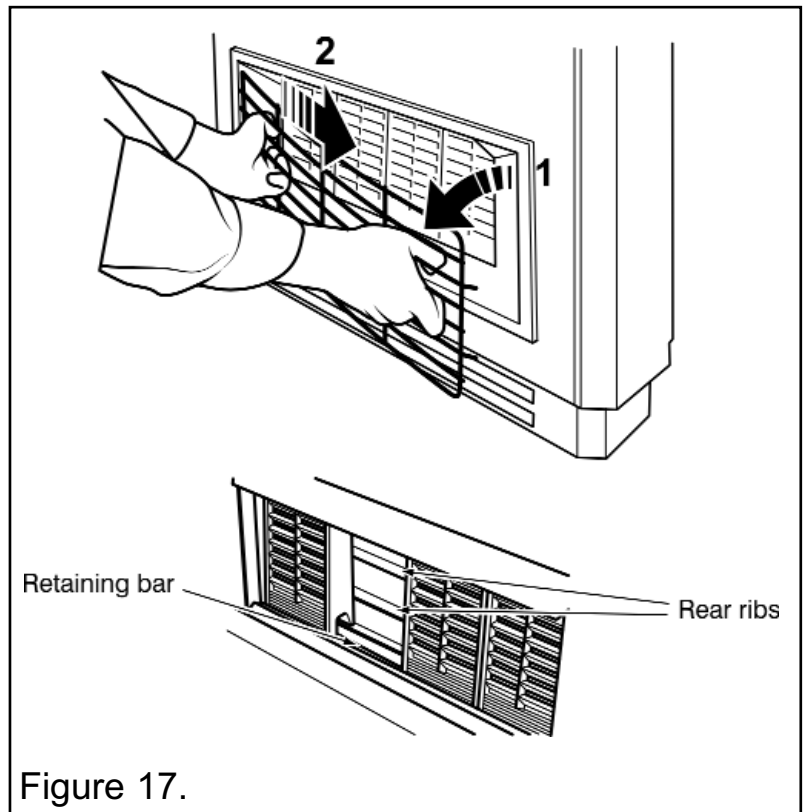

Figure 17.
1. Remove the dress guard by gently pulling it in the centre with one hand, and carefully springing out one end from the fascia with the other. Slide the opposite side of the dress guard clear of the fixing holes. **Take care not to scratch the trim (See figure 17).**
7. Unscrew and remove the three screws from the rear of the assembly (See figure 17).